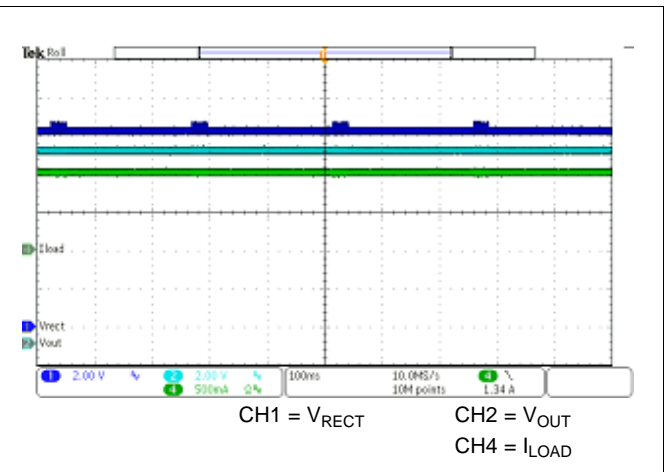
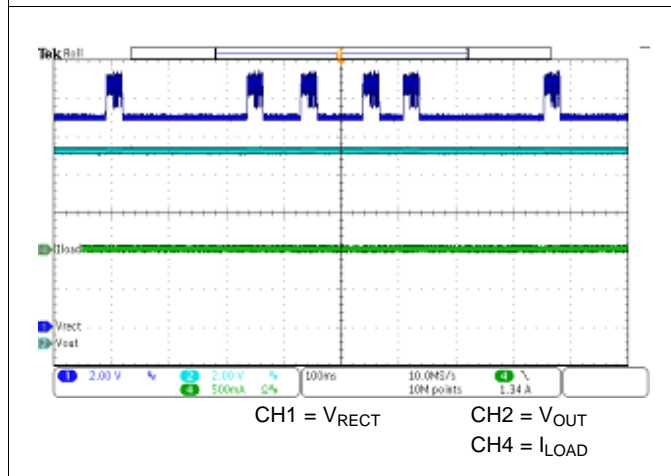

Figure 35. 10-V Tuned RX VOUT at Center Position With 1-A Load
Figure 36. 10-V Tuned RX VOUT at Center Position With No load
4. Make sure  $C_1$  as well as  $C_{COMM1}$  and  $C_{COMM2}$  are populated and place the receiver with best possible alignment on the transmitter and start power transfer. Using an oscilloscope, monitor the  $V_{RECT}$  voltage during communication at maximum load. If  $V_{RECT}$  decreases during communication, increase  $C_1$  until the voltage remains flat. Note that the larger the  $V_{RECT}$  voltage increase is during communication at maximum load, the larger the losses on the device. The voltage increase in  $V_{RECT}$  is larger with lower load and lower coupling, so it is important to keep the  $V_{RECT}$  voltage as low as possible during communication at maximum load and coupling to maximize efficiency across charging area and load range. Figure 35 and Figure 36 show how the  $V_{RECT}$  voltage behavior after tuning